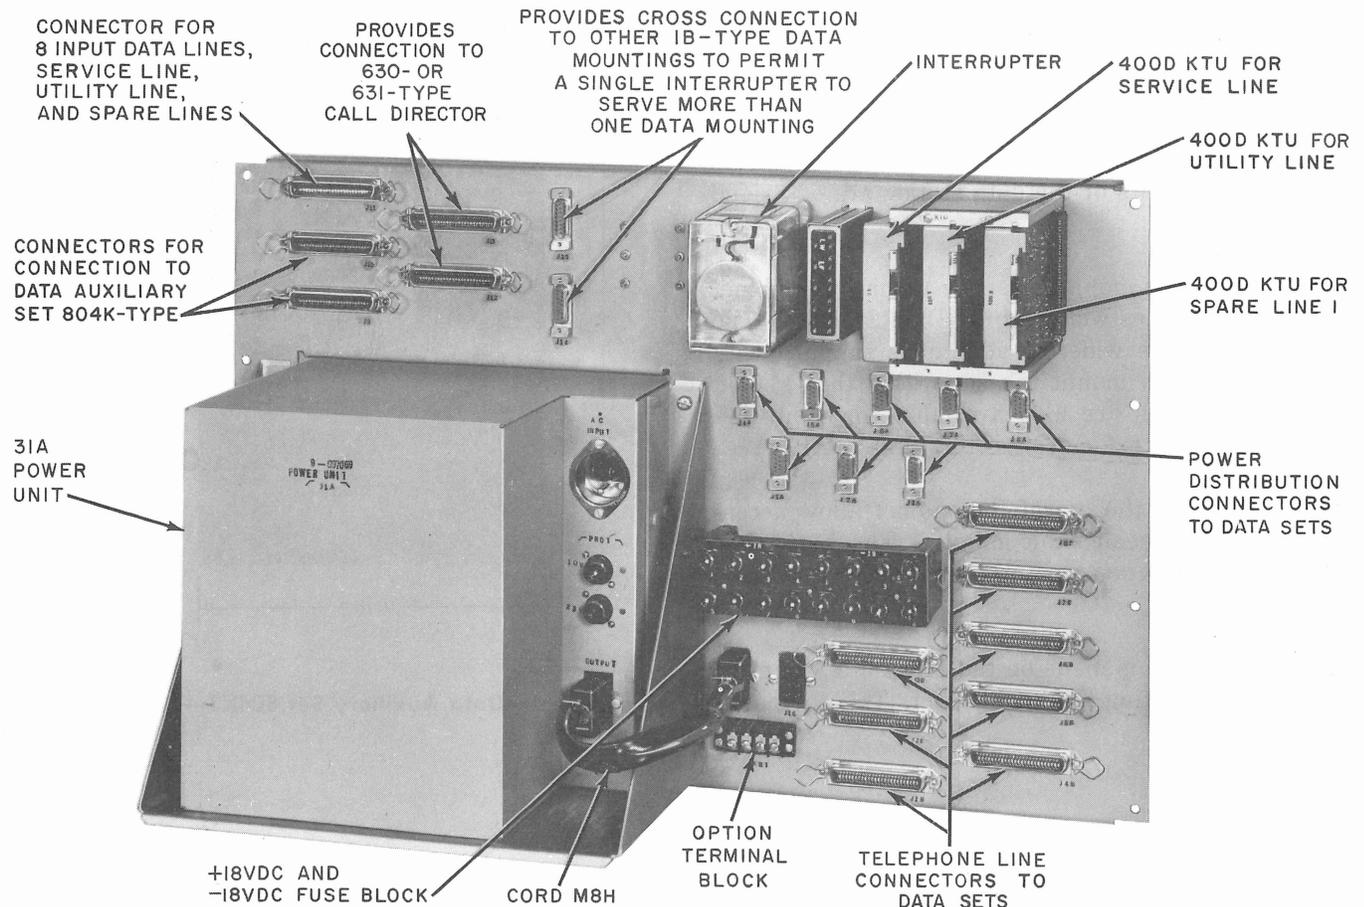

Fig. 3—1B-Type Data Mounting With Options and Features Incorporated
2.04 The 1B3 Data Mounting (Fig. 3) is a 25-inch panel which contains connectors, fuses, KTU equipment, a 31A Power Unit, and KTU mountings. It also contains jacks for distribution of power and for interconnecting the associated data sets, Data Auxiliary Set 804K-type, and other components making up the station.